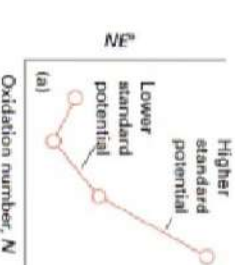

Fig. 3
③ The steeper the line joining two points (from left to right) in a Frost diagram, the higher the standard potential of the corresponding curve (Fig. 3)